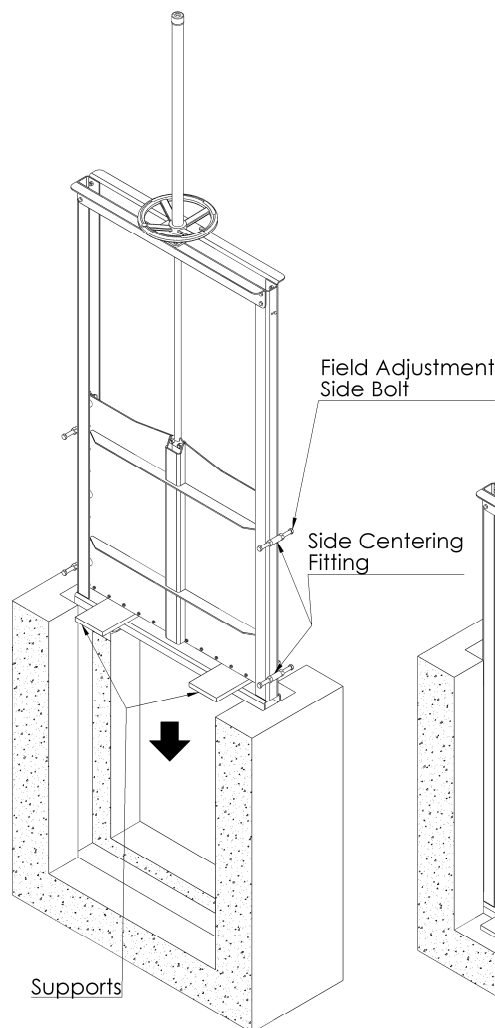

Figure 4
- Rise the slide enough to fit the two supports and secure the supports by closing the slide (See Figure 4).